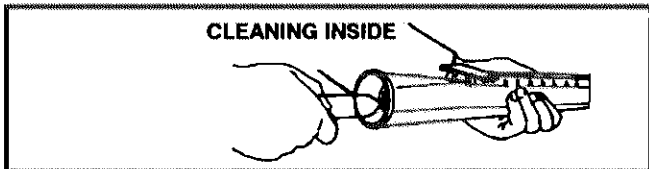

FIGURE 31
- 15— Clean inside of each burner with a bottle cleaning brush. See figure 31.